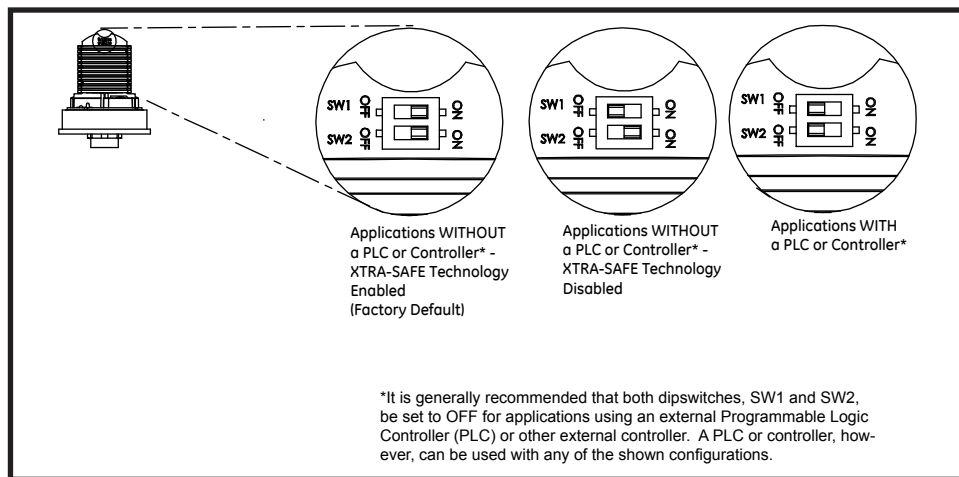

Figure 4. Dipswitch Settings
7. The 105XBRI Multi-Status indicator is shipped with XTRA-SAFE™ Technology Enabled. The unit offers two other field selectable options: (1) for applications without a separate PLC or controller with the XTRA-SAFE™ Technology disabled or (2) for applications with a separate PLC or controller. For more information on the features, refer to the description. For settings, refer to Figure 4.
- b. Set dipswitches for desired options (Figure 4)